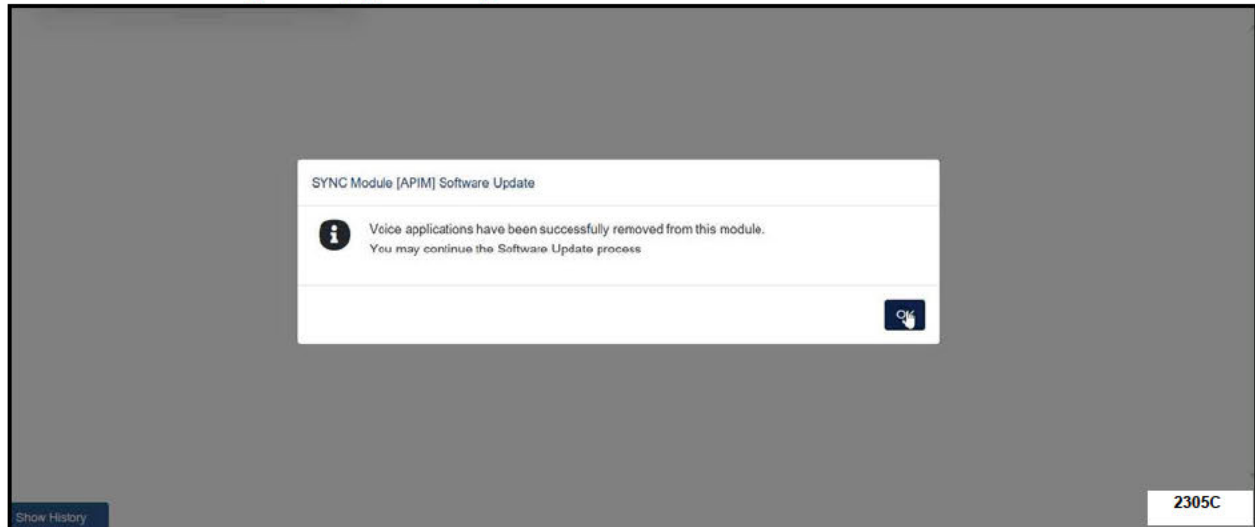

FIGURE 3
12. Continue to follow all on-screen instructions carefully until the voice application has been successfully removed. See Figure 3. (app deleted)